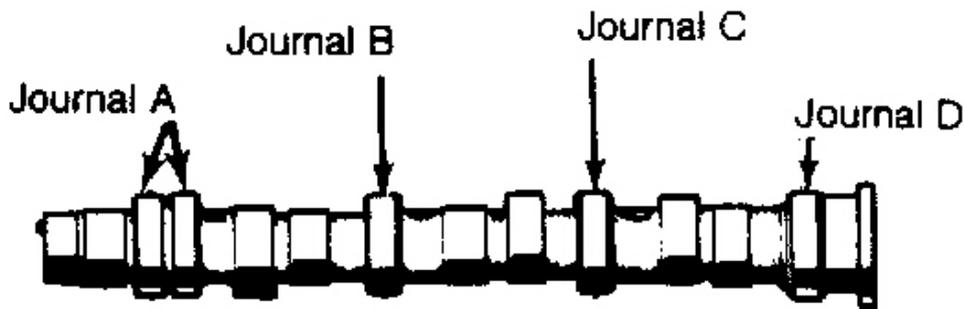

Fig. 4: Camshaft Journal Identification
4. Inspect camshaft journals for wear and damage. Measure journal shaft diameter and journal bore diameter to determine journal clearance. See **Fig. 4**. Journal clearance should measure .002-.0036" (.05-.09 mm). If journal clearance exceeds .006" (.15 mm), replace camshaft and/or cylinder head.